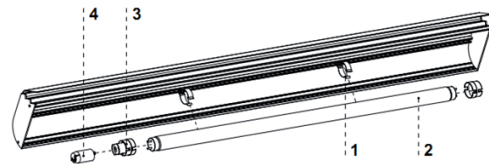

Fig.10 Changing the fluorescent lamp
- Turn on the main switch Fig.10/1 (p.8), which activates the temperature regulator, and then aggregate of the device
If after checking points described in chapter 6.1 „Fault identification and repair” the device still does not work properly, please contact Technical Service of the Igloo company, stating the data from the data plate Fig.10 (p.22):